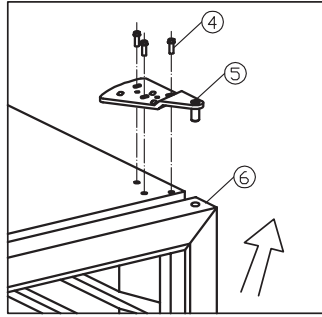

Abb. 5.2
- While holding the door firmly, loosen and remove the top hinge, lift up and remove the door. See fig.5.2